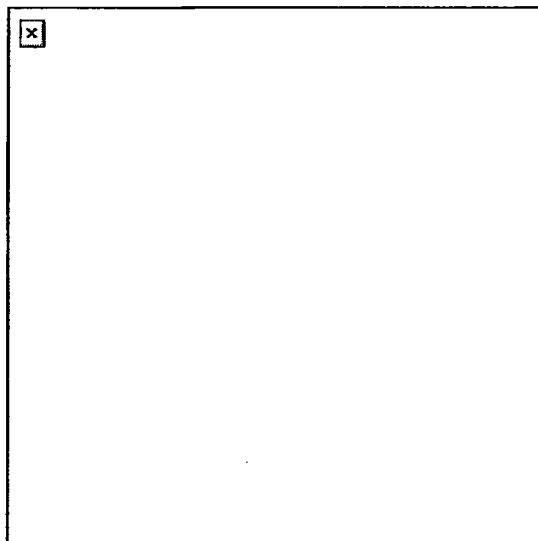

Figure 3. Removal of bolt and backplate assembly.
- (4) Lift up slightly on the back plate assembly. Slowly pull the bolt and back plate assembly out of the receiver.
- (5) Support the bolt with one hand and maintain a control grip with the other hand. Lift the bolt up slightly and remove it (Figure 3).